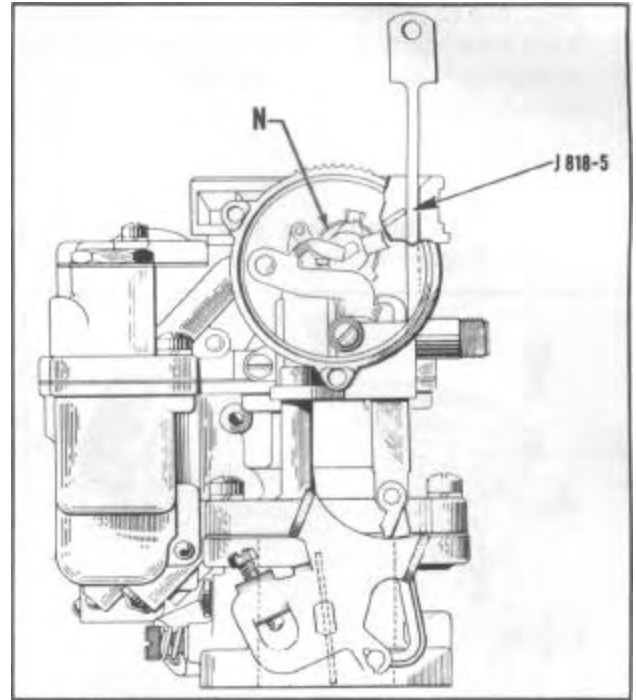

FIGURE 52
2. Check clearance between upper edge of choke valve and inner wall of air horn; this should be 1/8" (use Tool J-818-5), Figure 52.